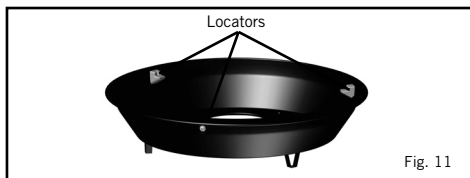

Fig. 11
- The BBQ grid locates on three die-cast locators in the fat pan (Fig. 11).
- The Chef Pan locates on three die-cast locators in the fat pan (Fig. 11).
- The Grill2Braai locates on three die-cast locators in the fat pan (Fig. 11).